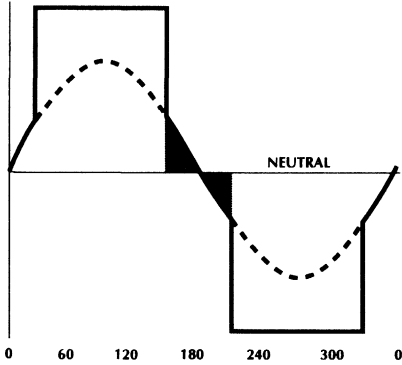

Figure 2. Typical Motor Phase Waveform with Back-EMF Superimposed (Ideal Commutation).
The ML4410 contains a patented back-EMF sensing circuit which samples the phase which is not energized (Shaded area in figure 2) to determine whether to increase or decrease the commutator (VCO) frequency. A late commutation causes the error amplifier to charge the filter (RC) on pin 20, increasing the VCO input while early commutation causes pin 20 discharge. Analog speed control loops can use pin 20 as a speed feedback voltage.